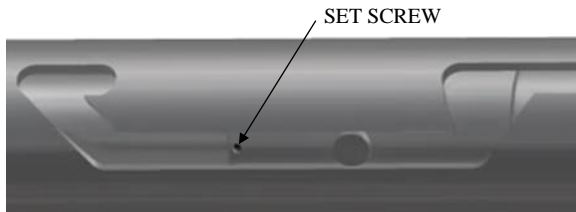

Fig. 7
- K-1.16) Rotate J-body (20) as needed to position J-pin of J-pin bottom sub (23) along J-slot to access threaded holes (Fig. 7). Screw set screws (6) into J-pin bottom sub (23).